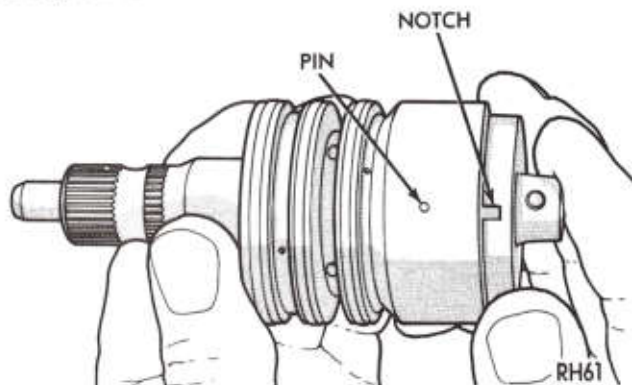

Fig. 16—Install Stub Shaft Assembly
(2) Install O-ring over spool valve.
(3) Enter the spool valve into the valve body. Push while rotating it slightly until the shaft pin hole is visible from the opposite end with the spool valve flush with shaft cap end of valve body.
(4) Position the stub shaft assembly into the spool valve until the shaft pin can be engaged in the hole in spool valve.
(5) Position the shaft cap so the notch aligns with the pin in the valve body; press the spool valve and shaft assembly into the valve body. The valve body pin must mate with the cap notch before the valve body is installed into the gear assembly. Install new O-ring in shaft cap end of valve body assembly (Fig. 16).